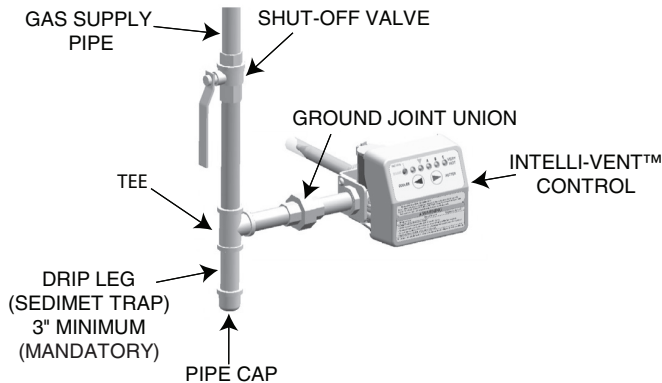

Figure 1. Typical gas connection
6. Disconnect the gas line at the union (Figure 1). Remove the piping from the old control.
Dirt or contamination in the gas line can block the control from operating creating a risk of explosion, injury, or death. To protect the control from dirt and contamination, a drip leg or sediment trap (see Figure 1) must be installed in the piping leading to the control.